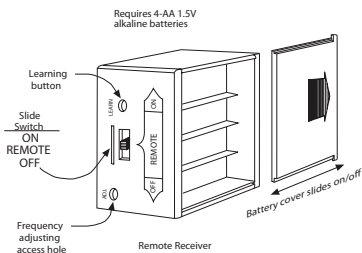

Figure 34 - Installing Receiver Batteries (Included)
4. Remove battery housing cover on remote receiver to expose battery housing (see Figure 34).
5. Install 4 AA batteries into housing following positive and negative directions on battery housing cover removed in step 3 (see Figure 34).